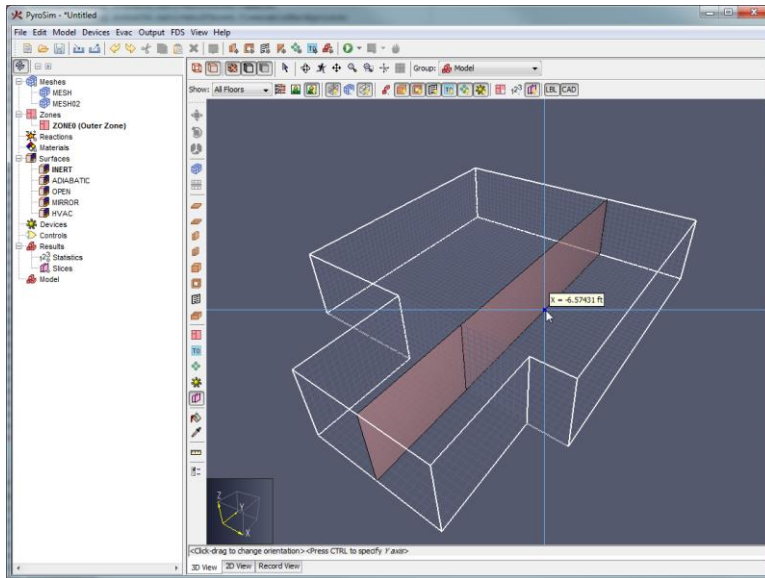

Figure 8.25. Drawing a slice with the planar slice tool
3. Move the cursor to the desired slice location. A preview slice will be displayed as shown in Figure 8.25.¹ The slice plane can be changed through the right-click menu, by click-dragging the left mouse button, or by pressing **CTRL** on the keyboard to cycle through the options.